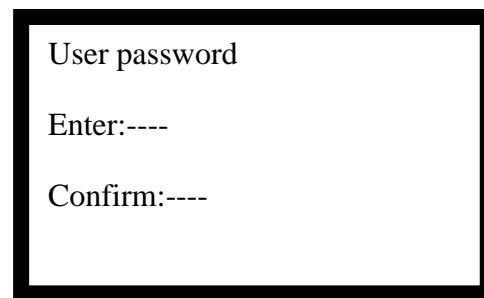

Fig. 4-29
- Selecting "1.User PWD" and entering the user password shows the screen of Fig.4-29 for modifying the user password. Enter a new password (4 digit) after "Enter:", then write it again after "Confirm:". Press **【Menu/Enter】** to show "Set Succeed" if the password entered twice is the same. The system saves the new password and exits the current menu. Press **【Menu/Enter】** to show "Set Failed" if the password entered twice is different. The system doesn't save the new password and exits the current menu. Or press **【ESC】** to exit directly.